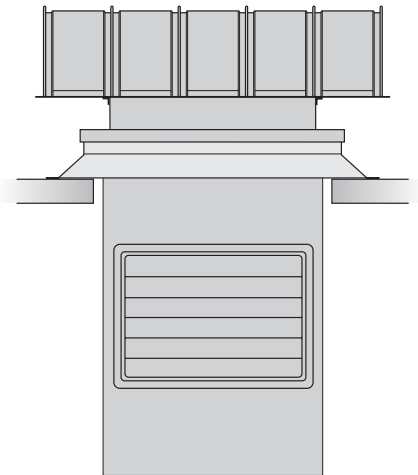

Fig. 2
4. The hood and plenum are secured to the roof curb. (Fig. 2)